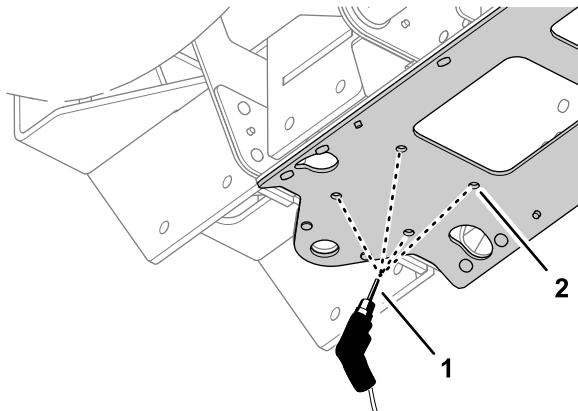

Figure 51
7. Drill 4 holes 10 mm (3/8 inch) in the center-channel plate at the centerpunch marks that you made in step 6 as shown in Figure 51.